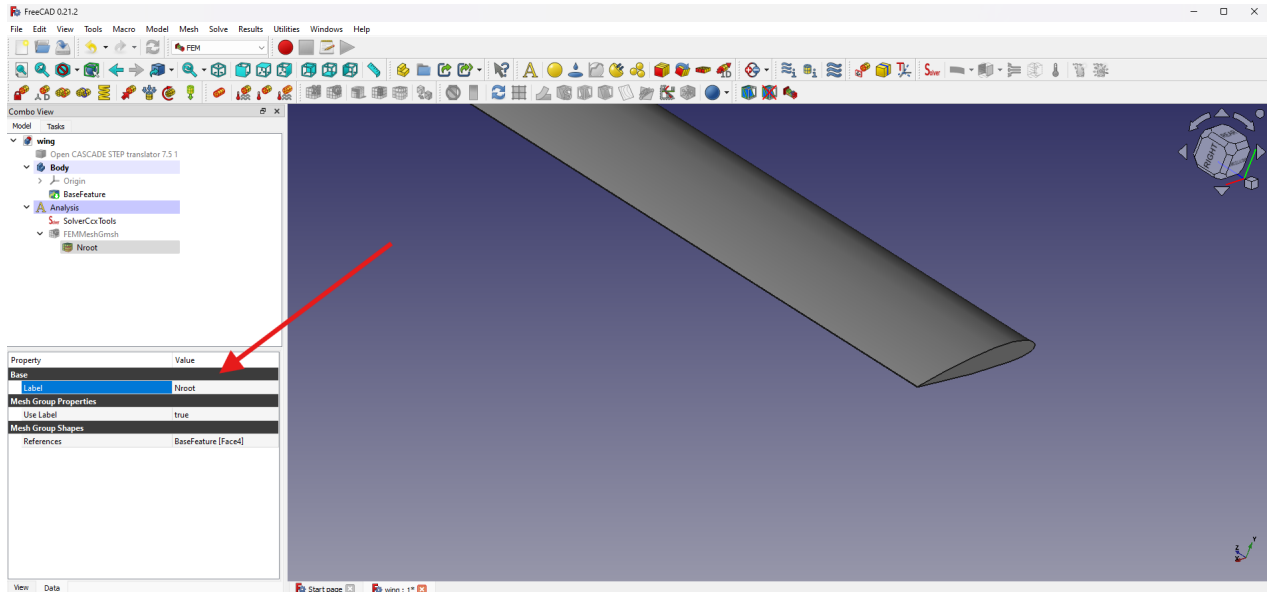

Figure 18: FreeCAD: Rename mesh group
- In the **Model** tab, select the **MeshGroup** and rename its **Label** to **Nroot** (Figure 18). This will help us define the boundary condition in the Solid domain.